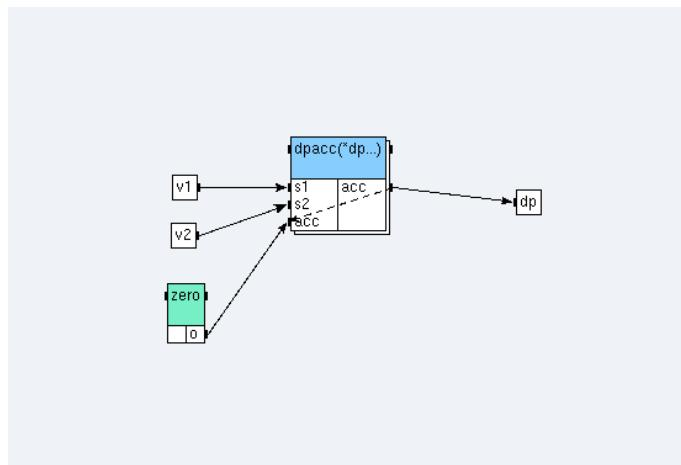

Figure 4.7: Algorithm of the function `dp`
- create dependences to obtain an algorithm (*cf.* figure 4.7). To build the dependence between the output port `acc` of `dpacc` and its input port `acc`, choose **Iterate** on the dialog window (it is the connection between two successive calls of the function).